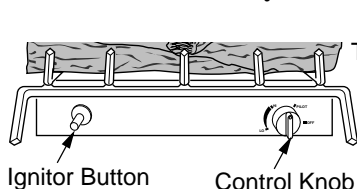

Figure 28 - Control Knob and Ignitor Button Location
4. Wait five (5) minutes to clear out any gas. Then smell for gas, including near the floor. If you smell gas, STOP! Follow "B" in the safety information, starting in column 1, page 18. If you don't smell gas, go to the next step.
5. Slightly depress and turn control knob counterclockwise to the PILOT position. Keep control knob pressed in for five (5) seconds (see Figure 28).